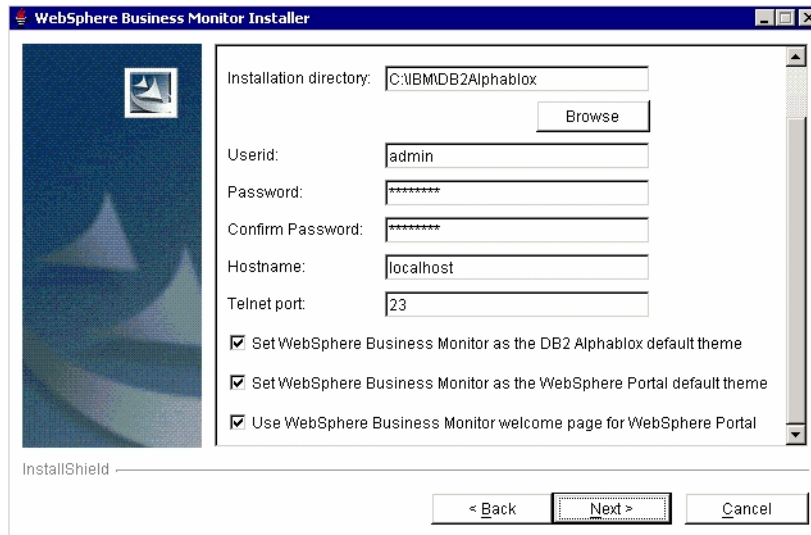

Figure B-18 Monitor Dashboard Client: DB2 AlphaBlox settings
- ▶ The DB2 Alphablox settings are displayed (Figure B-18).